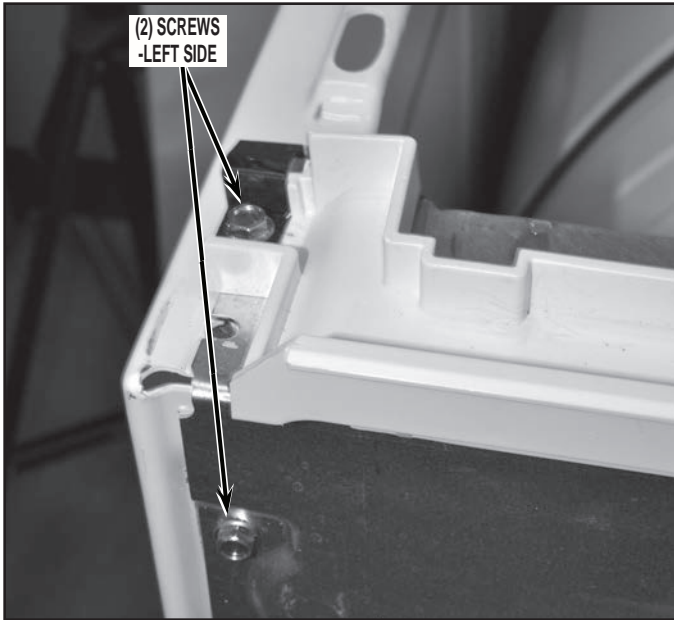

FIGURE 12A
14. Remove console mounting bracket by removing two (2) screws securing bracket to cabinet left side panels, two (2) screws from right side panel and one (1) screw from central control bracket. Slightly lift assembly and remove from dryer. See *Figure 12A and 12B*.